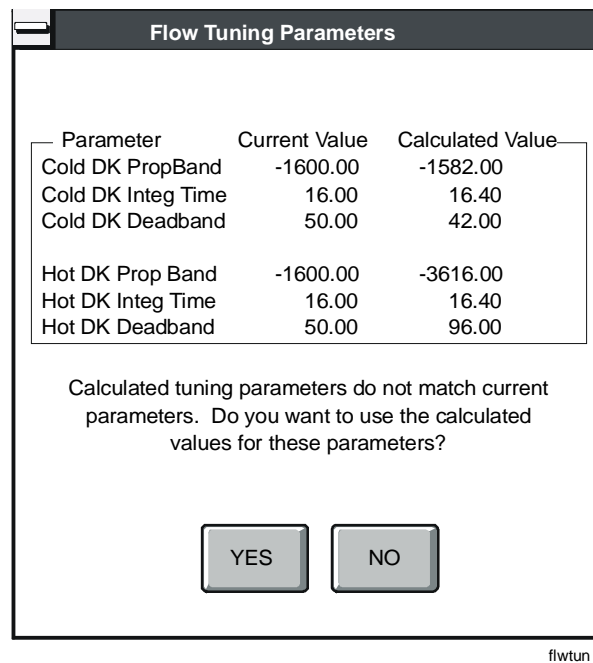

Figure 15-23: Flow Tuning Parameters Dialog Box
1. On the Action menu, click Recalculate Flow Tuning Parameters. The Flow Tuning Parameters dialog box displays as shown in Figure 15-23.